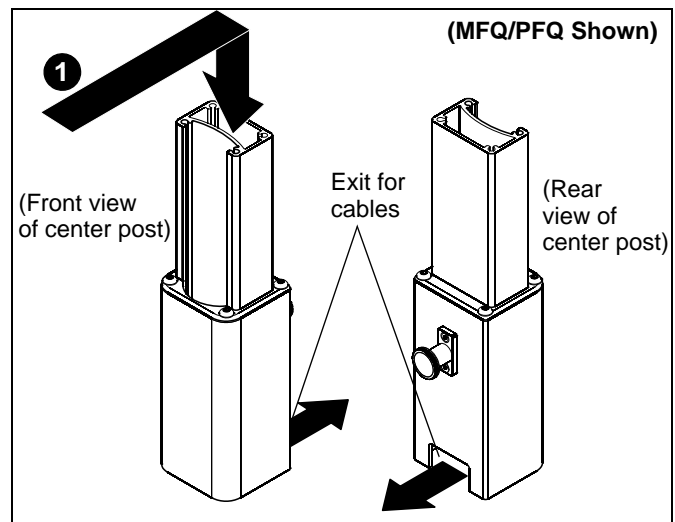

Figure 11
1. Signal cables and display/accessory power cords can be run through the top and down through the post to exit out the back. (See Figure 11)